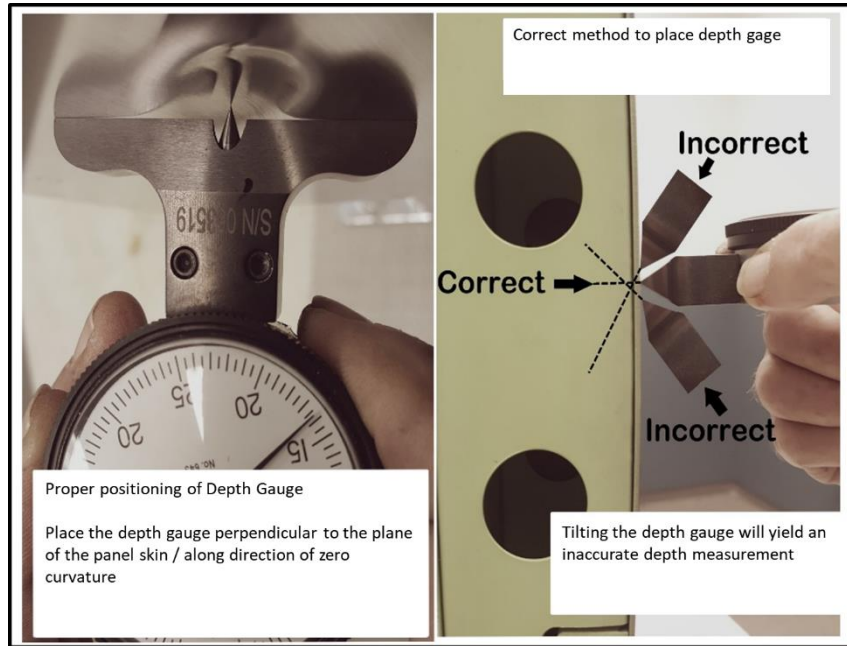

Figure 4
- Place the depth gauge perpendicular to the plane of the panel skin / along the direction of zero curvature. (Figure 4)
- Record depth measurement (in inches) on the Task Card, and mark that point (Y) with a marker. (3 decimal points)